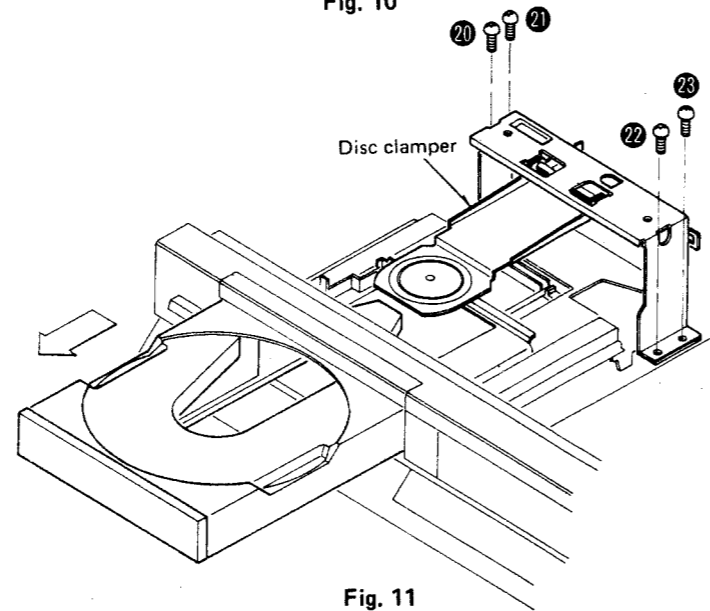

Fig. 11
3. Remove the 4 setscrews [Fig. 11: 20 ~ 23] of the disc clamper, then the disc clamper can be removed.